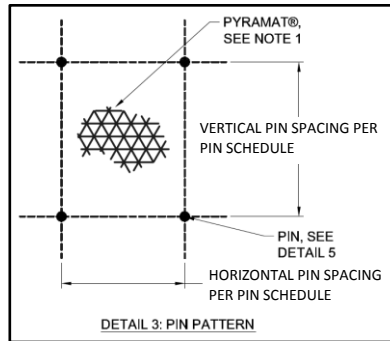
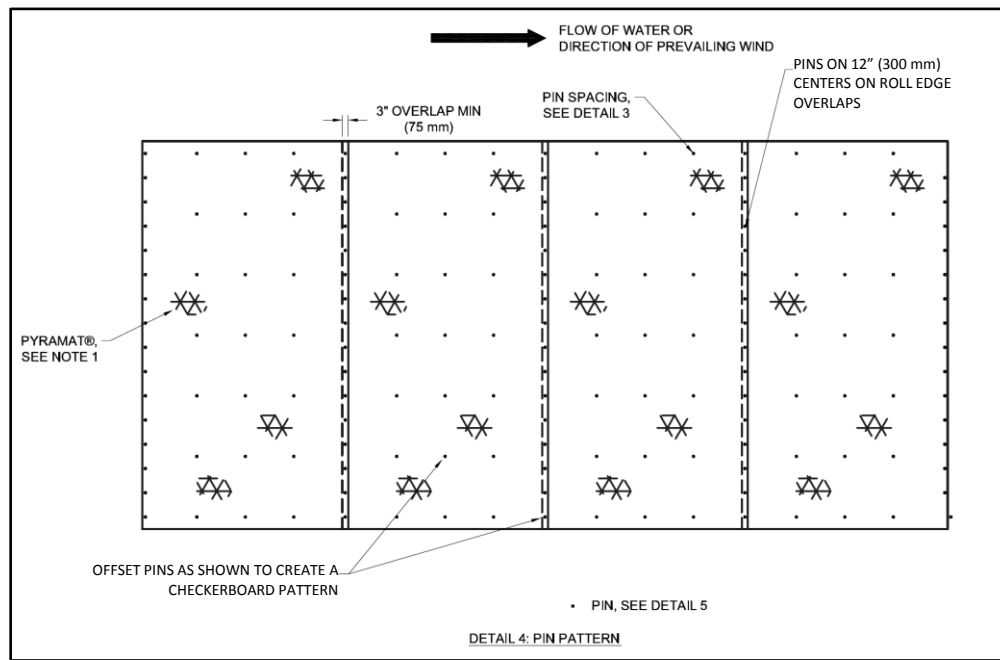

Figure 11: Example Pin Pattern
Figure 12: Example Edge Overlap Pattern
6. Place the next PYRAMAT panel by laying the PYRAMAT roll so that the roll end points towards the COS trench (Figure 8), with a 3 inch (75 mm) overlap created at adjacent panel edge locations. Ensure that adjacent panel edges maintain a minimum 3 inch (75 mm) overlap during *PYRAMAT LAYDOWN* (Figure 12).
10. Secure PYRAMAT panels in place using pins across the channel surface according to the project's engineered design. Pin placement should reflect a checkerboard pattern across the channel surface for best results (Figure 11 and Figure 12).
- Roll edges shall be overlapped a minimum of 3 in (75 mm) with pins placed on 12 in (300 mm) centers (Figure 12).
13. Continue to work down the length of the channel by repeating steps 6 through 9 overlapping each adjacent PYRAMAT panel by 3 inches (75 mm) (Figure 12). The last PYRAMAT panel should terminate on the Terminal Channel (TC) trench with pins on 12 in (300 mm) centers